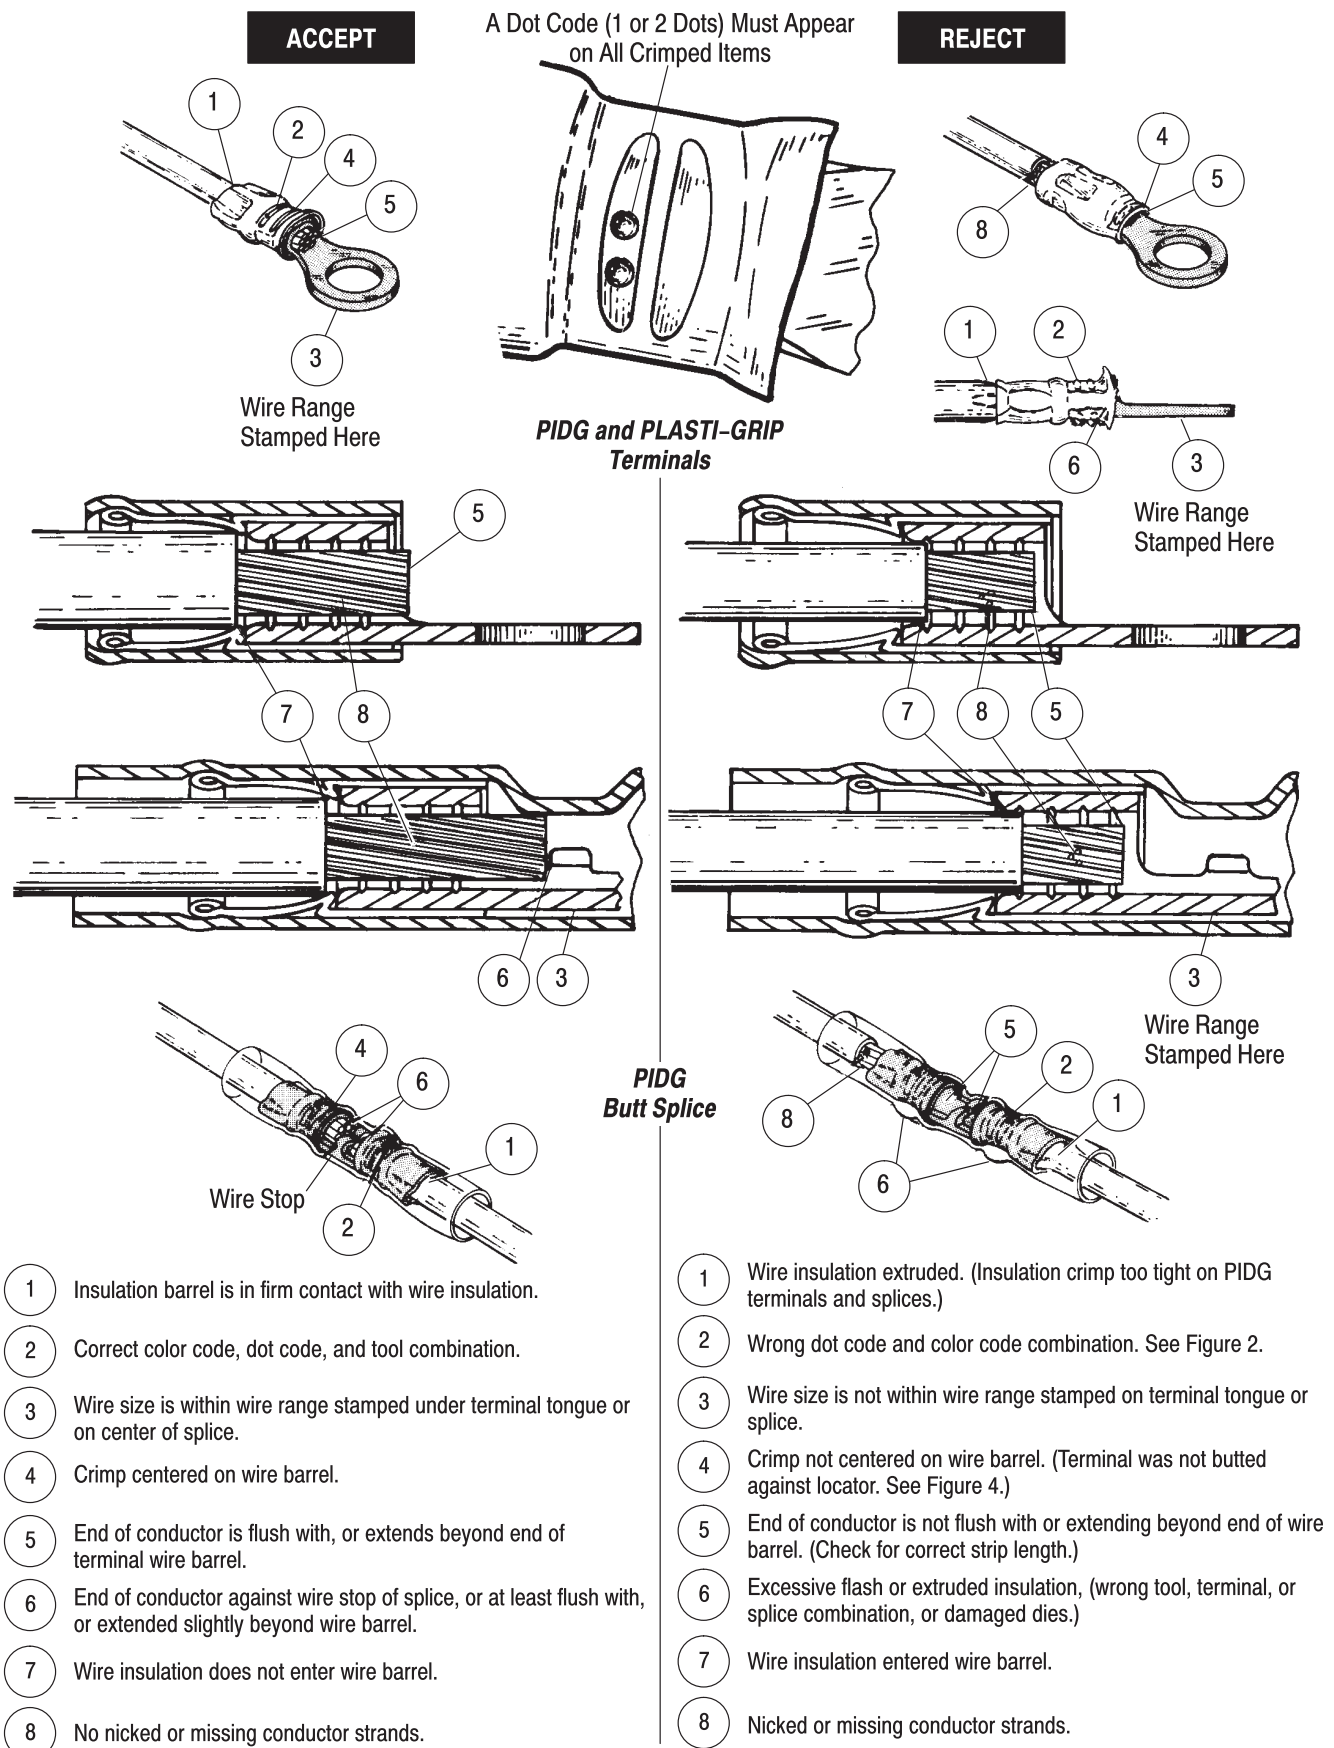

Figure 5
6. Cycle the SDE 1600 Power Unit and hold momentarily to complete the crimp. The terminal or splice should be as shown in Figures 5 or 6.